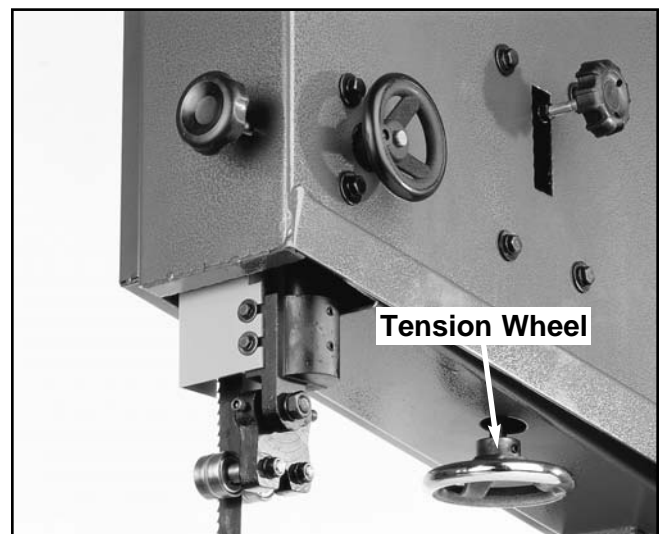

Figure 4. Tension wheel adjustment location.
3. Turn the tension wheel until the blade deflects about $\frac{1}{4}$ ". **See Figure 4.**